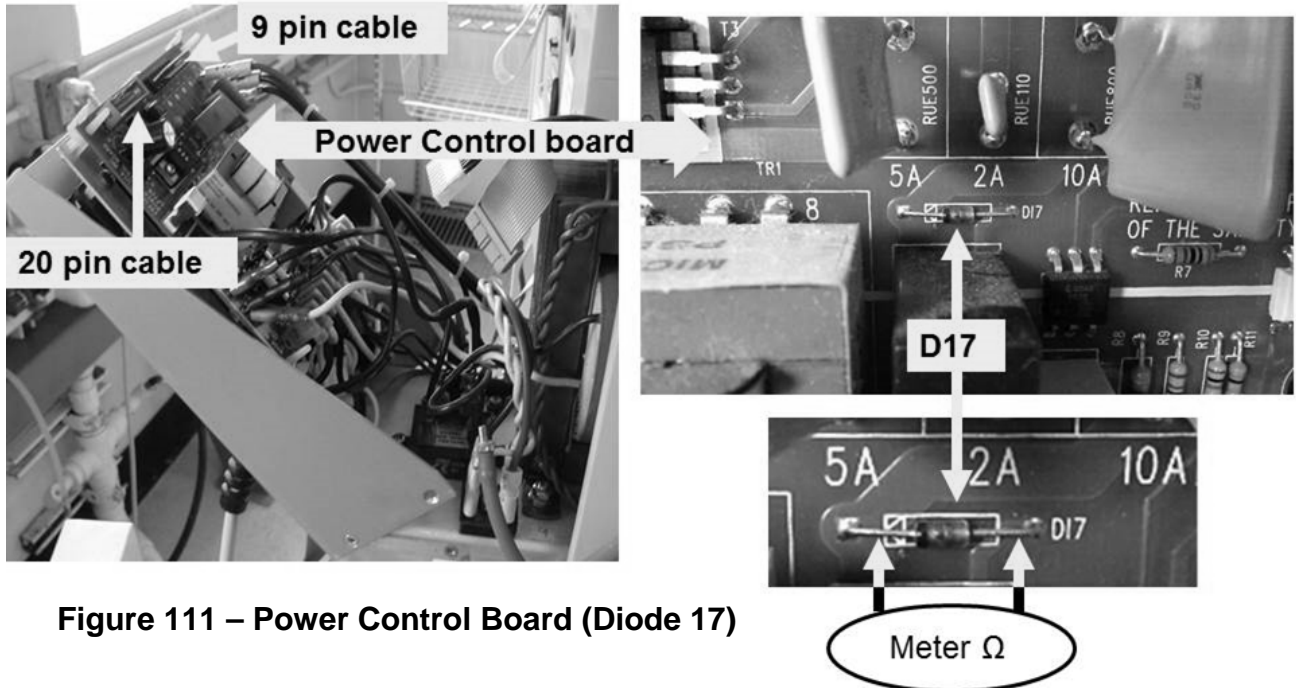

Figure 111 – Power Control Board (Diode 17)
- Per Figure 111 below, open the power supply to see the component side of the Power Control board.
- IMPORTANT!** The twenty (20) and nine (9) pin* cables MUST be unplugged! *BEFORE unplugging the nine pin cable NOTE its polarity (i.e. orange wire on the right)!
- Per Figure 111, check diode 17 (D17) by placing one meter lead on one side of it and the other lead on the other side.
- Figure right, reading the meter's numeric AND units display, TWO (2) possible scenarios: